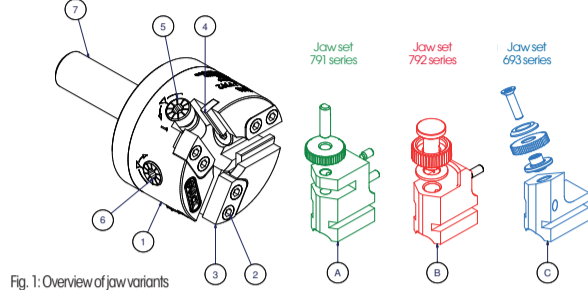

Fig. 1: Overview of jaw variants
Please specify the tool number and the corresponding position number (see Figure 1).
Produce a chamfer (30° – 45°) on the workpiece with a minimum width corresponding to half of the pitch of the knurling wheel on the start of the workpiece. Tool shank (Fig. 1, Pos. 7) is not included in the scope of supply. The concentricity of the workpiece must be max. 0.03 mm.
Various jaws are pre-assembled depending on the tool type. Conversion between the cutting process (C693 series), forming (F791 series) and knurling up to a shoulder (F792 series) can take place by using different jaw sets. These variants are shown in Figure 1 (A–C).
If it is necessary to change jaw sets, first loosen the clamping screws (Fig. 1, Pos. 2) of the clamping segment (Fig. 1, Pos. 3). Then turn the spindles (Fig. 1, Pos. 5) clockwise (CW) until the individual knurl holders (Fig. 1, Pos. A–C) can be removed.
Slide the knurl holders (Fig. 1, Pos. A–C) individually into the guide slots of the base body (Fig. 1, Pos. 1) and move the jaws together by means of spindles which are turned counterclockwise (CCW).
Note: In the installed state, the spindle aligned to the machine side can be reached through the passage (Fig. 1, Pos. 6).
Setting of the profile depth takes place after the centring of the knurl holders. This depends on the knurling process, pitch, profile and material displacement to be carried out. For this purpose, turn the spindles of the knurl holders (Fig. 1, Pos. 5) clockwise (CW). One spindle mark corresponds to 0.1 mm, referring to the diameter.